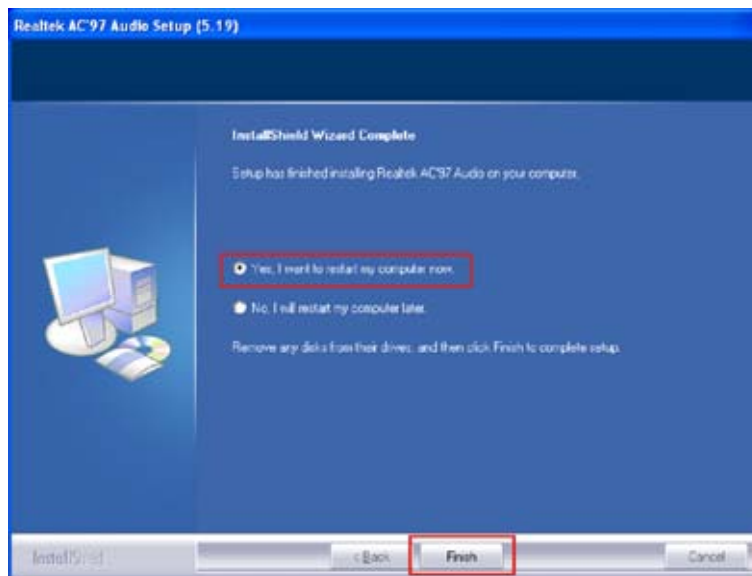

Figure 7-24: AC'97 Driver Installation Complete
Step 54: When the driver is installed, the driver installation finish screen in **Figure 7-24** appears.